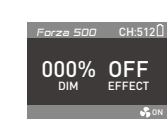

Figure 3
③EFFECT Button: When pressing the "EFFECT" button, If display shows "OFF", it is the locked status, so it cannot operate the special effect mode. If "Effect" button is pressed again, the status is now unlocked. (As shown in figure 3)